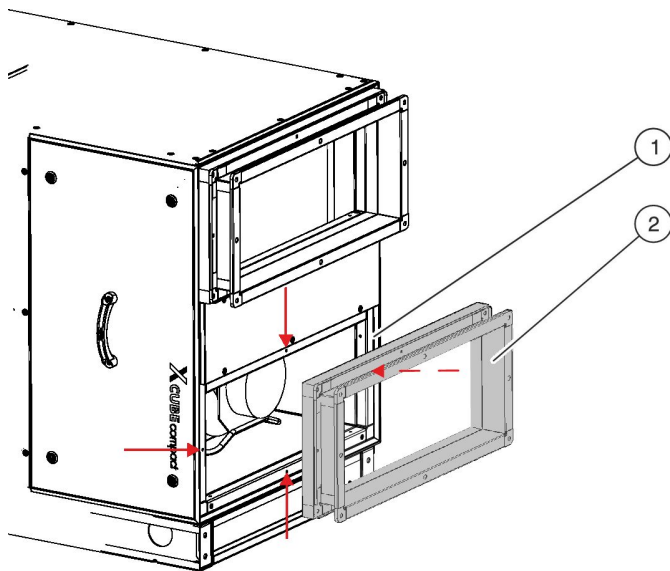

Fig. 21: Mounting noise insulating connectors
- ▶ Use four Allen screws (M6x50) to mount the noise insulating connector ( Fig. 21 /2) to the frame of the air handling unit ( Fig. 21 /1).
If an accessory module was ordered together with the air handling unit, the supply air spigot ( Fig. 21 /2 ) has been factory mounted on the supply air side of the accessory module.